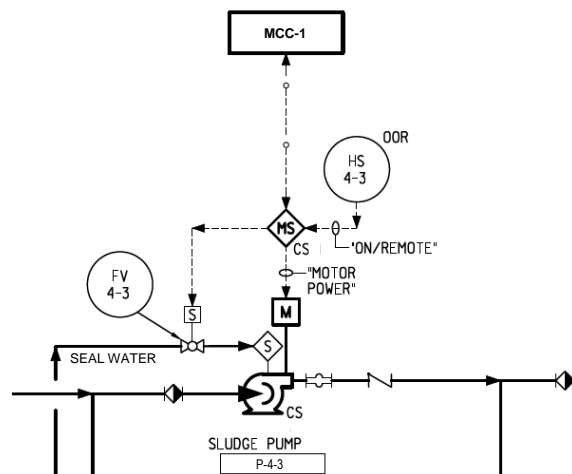

Figure 1: Example P&ID for a pump and a valve.
The main purpose of a P&ID is to indicate if devices are automatically controlled, and if so, how they are interlocked with instruments. P&IDs convey the interconnectivity of automated components. See Figure 1 for an example in which there is interconnectivity between a pump (P-4-3) and a solenoid valve (FV-4-3) for controlling seal water to the mechanical seals on the pump. To conserve water, the seal water should only flow when the pump is operating. The wiring from the motor starter (MS) to the solenoid (S) allows for the automated control of the seal water.
For Figure 1, the control description is as follows: